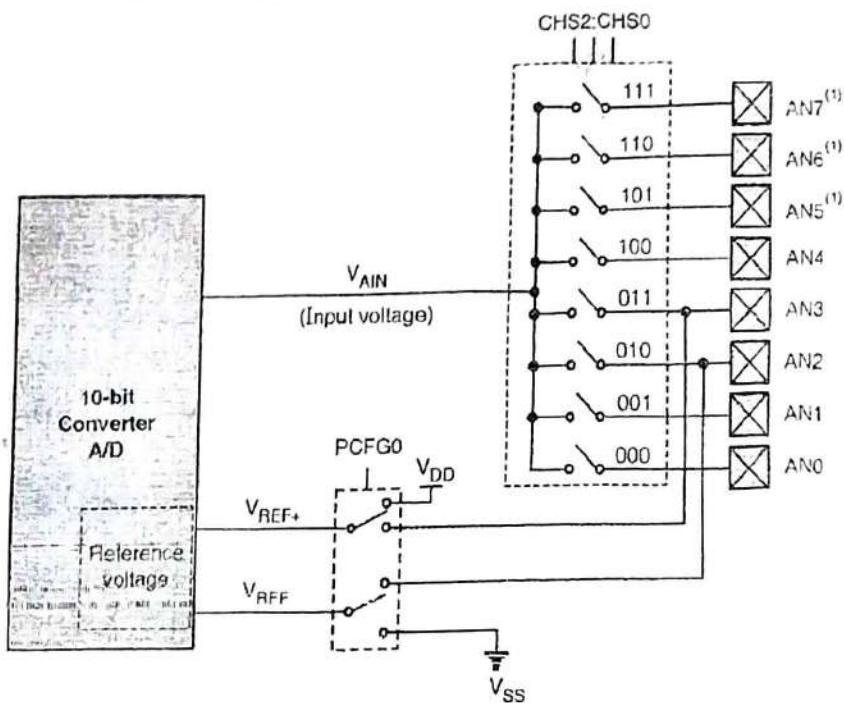

Fig. 10.2.3 : A/D Block diagram
- The ADRESH and ADRESL registers contain the result of the A/D conversion. When the A/D conversion is complete, the result is loaded into the ADRESH/ADRESL registers, the GO/DONE bit (ADCON0<2>) is cleared and A/D interrupt flag bit, ADIF, is set. The block diagram of the A/D module is shown in Fig. 10.2.3.
- Fig. 10.2.3 shows the operation of the A/D converter after the GO bit has been set. Clearing the GO/DONE bit during a conversion will abort the current conversion. The A/D result register pair will not be updated with the partially completed A/D conversion sample. That is, the ADRESH: ADRESL registers will continue to contain the value of the last completed conversion (or the last value written to the ADRESH: ADRESL registers). After the A/D conversion is aborted, a $2 T_{AD}$ wait is required before the next acquisition is started. After this $2 T_{AD}$ wait, acquisition on the selected channel is automatically started.